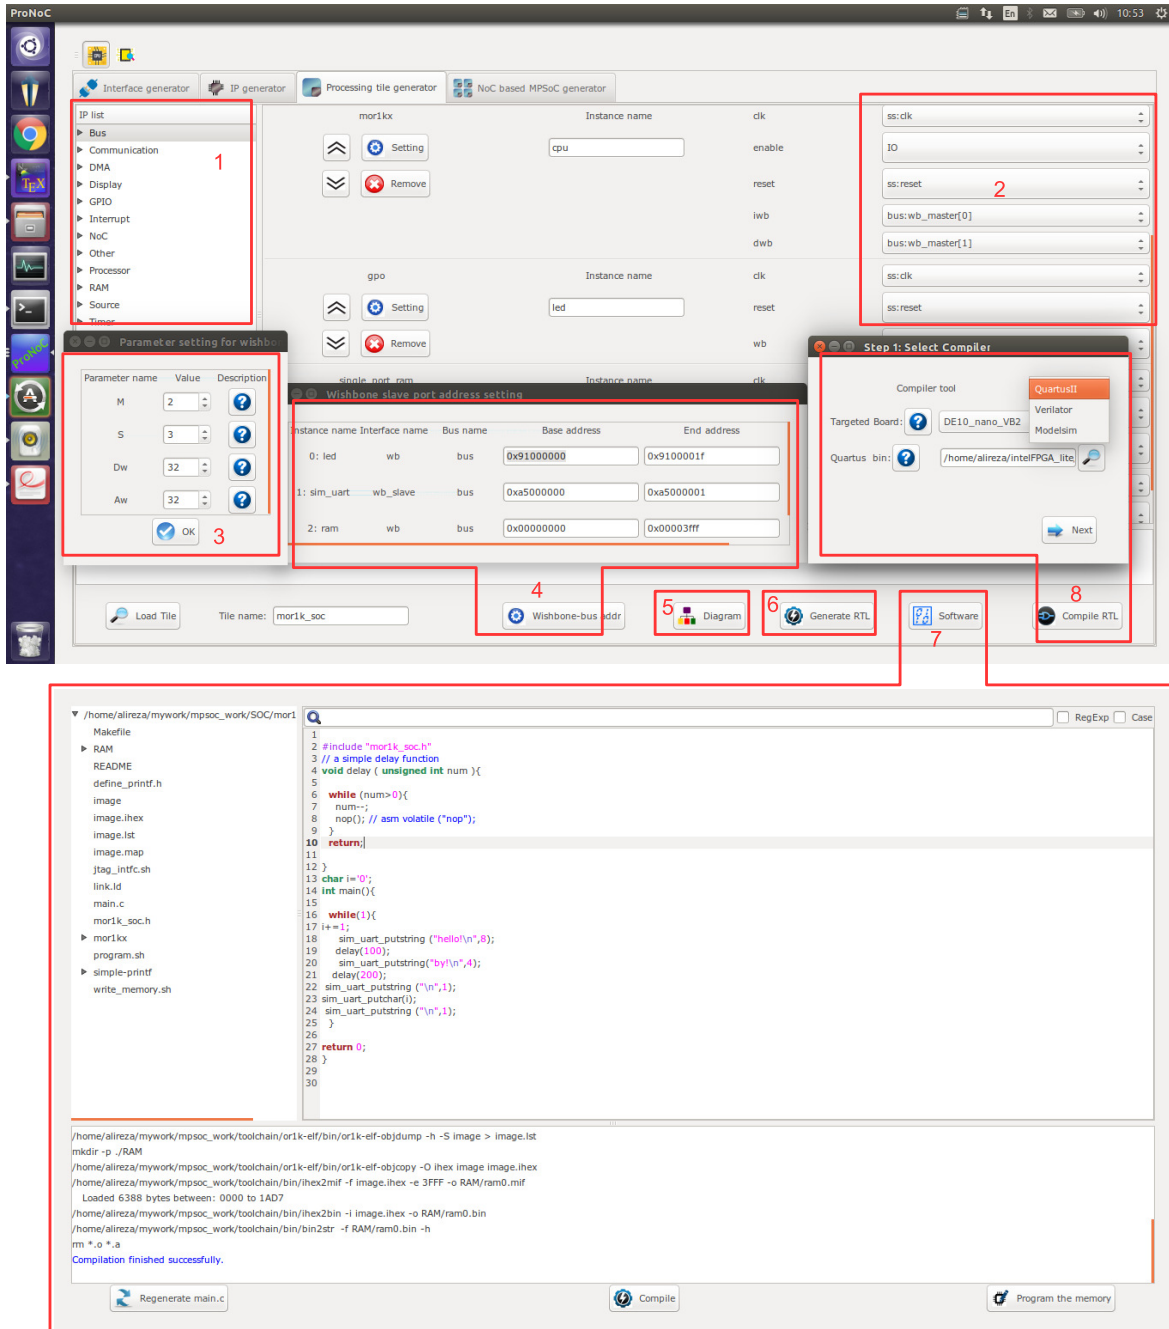

Figure 4.1: PT generator snapshot.
A Processing Tile (PT) is a set of several IPs (processors and peripheral devices) connecting via interfaces. Figure 4.1 illustrate a snapshot of PT generator. PT generator facilitates the RTL code generation of a custom PT by providing following features: